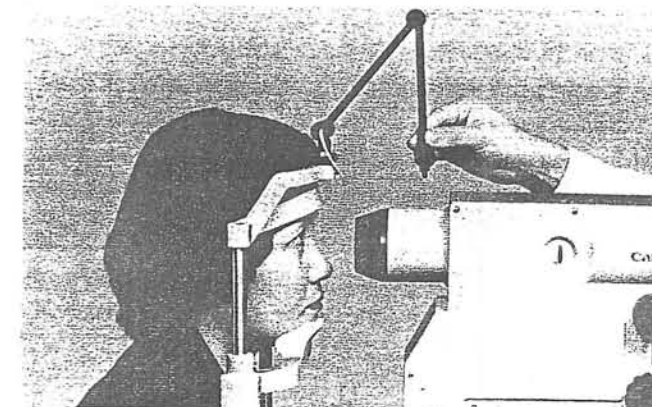

Fig. 40
9. Move the eye fixation lamp until it is almost directly in front of the examinee, and determine the position of the eye to be examined. (Fig. 40)